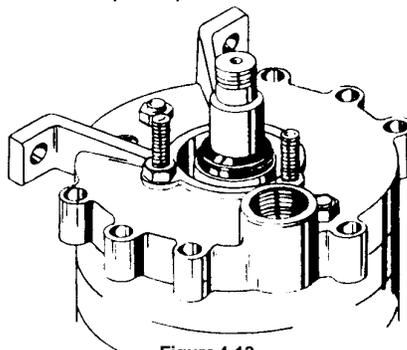

Figure 4-13
22. The seal rotating element can now be installed.(refer to figure 4-13) One and two stage pumps position the seal (#12B) by a shoulder on the shaft. Three and four stage pumps locate the seal (#13B) by means of a drive collar (#14B). The seal rotating element, when lubricated, must be allowed to move freely on the shaft. This will enable the seal to seek a hydraulic balance upon operation.